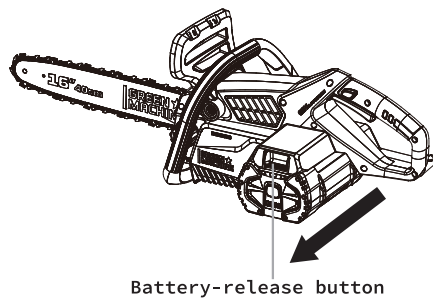

Fig. 3B
2. Press the battery-release button to disengage the battery from the latch. (Fig.3B)
3. Remove the battery taking care to stay away from the blades. (Fig.3B)